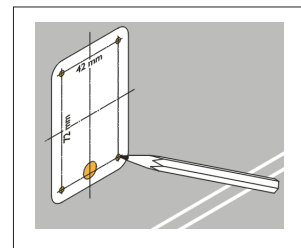

Fig. 2
- 2 - Mark the location of the fixing holes using the drilling template supplied with the photocells (Fig. 2);